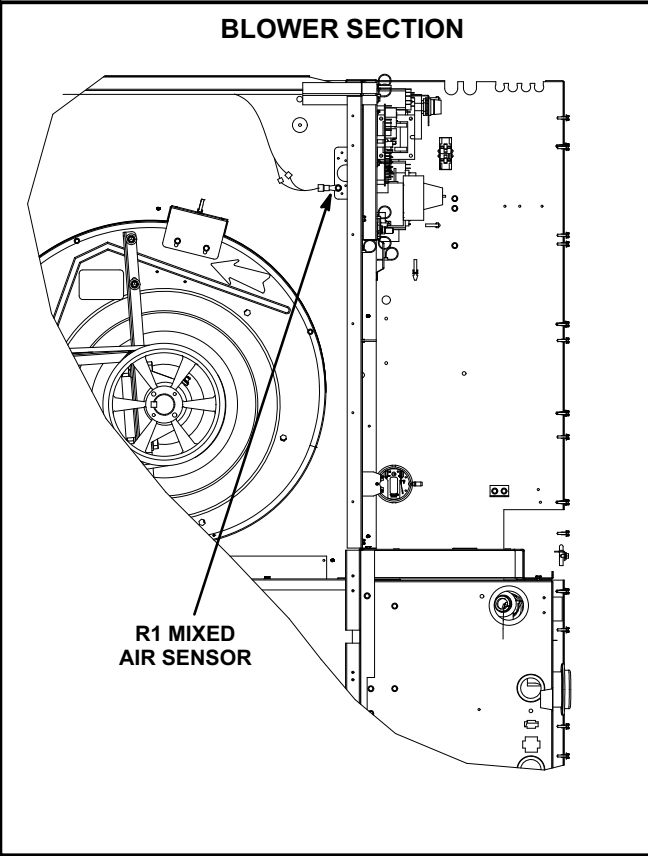

FIGURE 5
- 2- Install sensor on bracket as shown in figure 5.
- 1- Locate two wires labeled R1 in wire bundle in top of blower section. Connect spade connectors on wire to sensor terminals. Refer to figure 5.